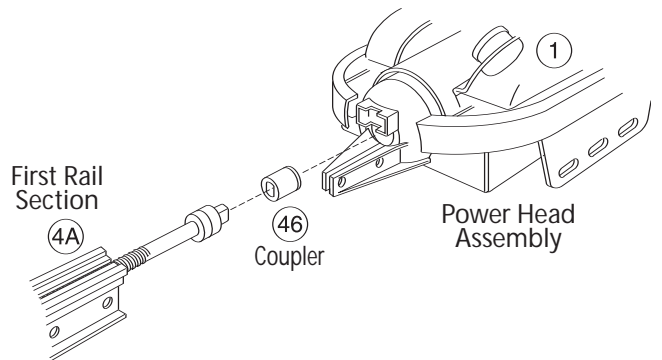

Figure 9 Install Bumper, Coupler and 1st Rail Section
- B Install Coupler on Motor Shaft (Figure 9).